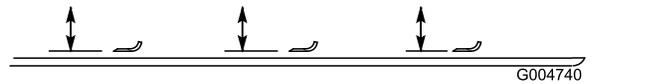

Figure 113
- Rotate the blade until the ends face forward and backward and measure from the inside of the mower deck to the cutting edge at the front of the blade (Figure 113).